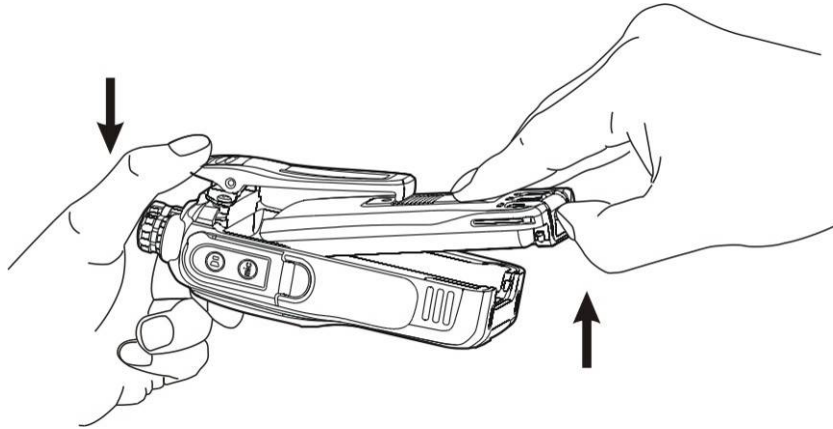

Figure 4
2. When the bottom of battery is turned up, release the battery latch and take out from the battery slot, see figure 4 below. (Note: when battery is turned up, the angle between battery and main unit can not be too large to cause serious abrasion of the tab in the top of battery.)